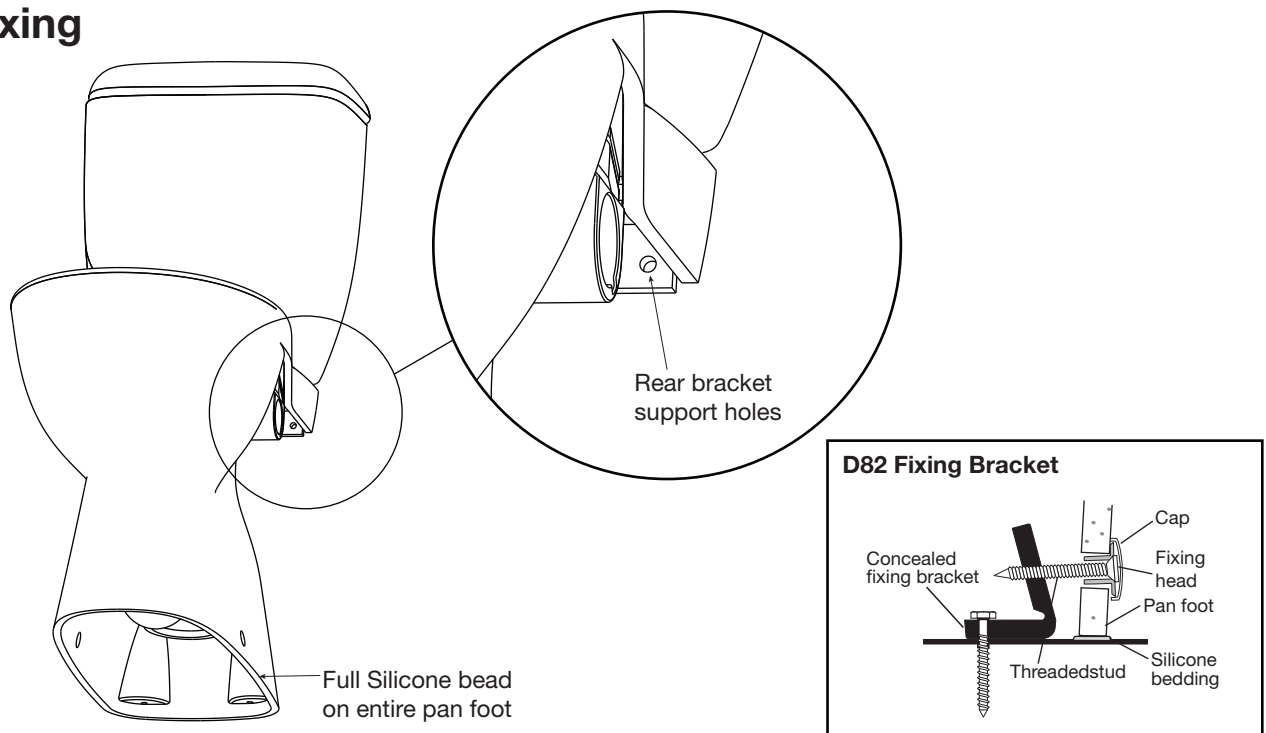

Fig. 10
11. Install pan as outlined in pan installation instructions ensuring a full silicone bead and D82 fixing bracket are used. Insert two (2) M8 wall fixing screws (not supplied) through rear of bracket into wall as shown in **Fig. 10**. Allow at least 24 hours for the bedding sealant to set before use (do not bed with sand-cement mixture).